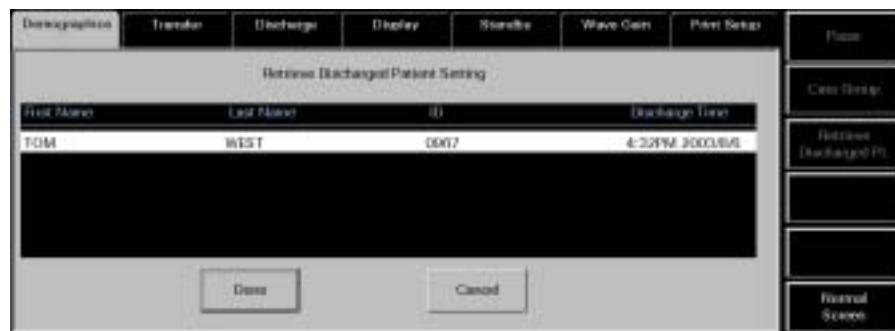

FIGURE 5-9 Retrieve Discharged Patient Setting View
The **Retrieve Discharged Patient Setting** view (FIGURE 5-9) provides a list of the discharged patients that can be retrieved. The list has four columns labeled First Name, Last Name, ID and Discharge Time. Each row in the list contains at least two of the three demographic indicators and the discharge time for a patient. The list displays the 5 most recently discharged patients. When the next patient is added to the list, the oldest patient data on the list is removed and permanently deleted from the system.
1. Select the **Retrieve Discharged Pt.** sidebar button in the **Demographics** tab. The **Retrieve Discharged Patient Setting** view (FIGURE 5-9) is displayed.